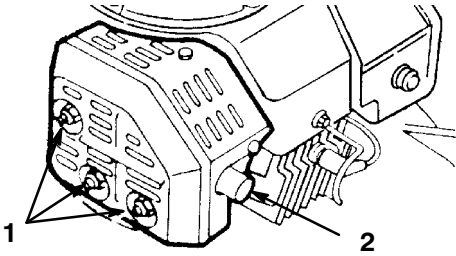

Figure 30
- Use a hardwood scraper to remove the carbon from the end of the muffler pipe (Fig. 30).
- Remove the screw, two nuts, and two lockwashers (Fig. 30).